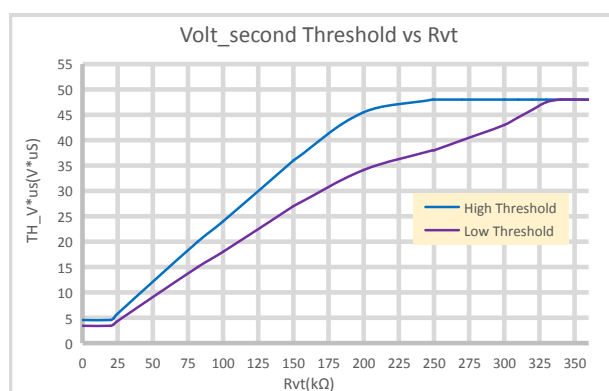
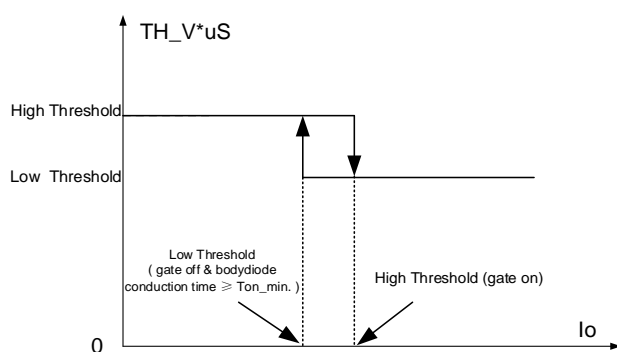

Fig. 2 Volt-second value vs. VT resistance
Fig. 3 Volt-second value with hysteresis
2) Volt-second of SW: in DCM and QR operation, there are parasitic oscillations. In some applications, the drain resonant voltage may fall below the SR turn on threshold, especially for the first couple rings. SR could be falsely turned on, which may cause shoot through issue and result in high power loss. The volt-second value of SW pin can be used to distinguish the parasitic ring from normal primary side switch on. The threshold can be set by the resistance at VT pin. The curve is shown in Fig. 2.
In application, as the output load( $I_o$ ) of converter increases, the volt-second value( $S1$ ) of SW pin also increases. When the volt-second value( $S1$ ) of SW pin is greater than the high threshold and gate turns on, the high threshold becomes to low threshold. As the output load decreasing, when the gate turns off and the MOSFET bodydiode conduction time is no shorter than  $T_{on\_min.}$ , the low threshold becomes to the high threshold. When the  $R_{vt}$  is more than  $250k\Omega$ , the high threshold is fixed and the low threshold increases with the increasing of  $R_{vt}$ . The low threshold is fixed and equal to the high threshold when the  $R_{vt}$  is more than  $330k\Omega$ . The voltage-second hysteresis is shown in Fig. 2 and Fig. 3.